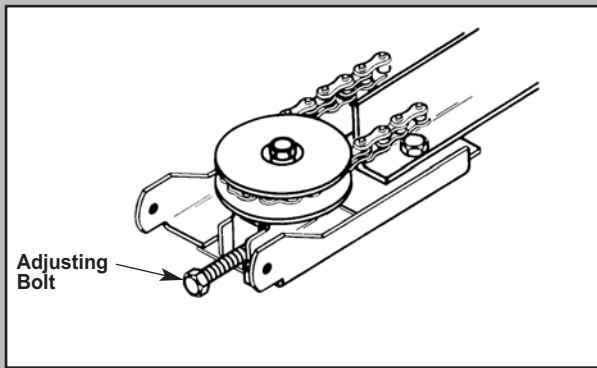

Fig. 1-4
- 6. **Use adjusting bolt to set chain tension (Fig. 1-4)**